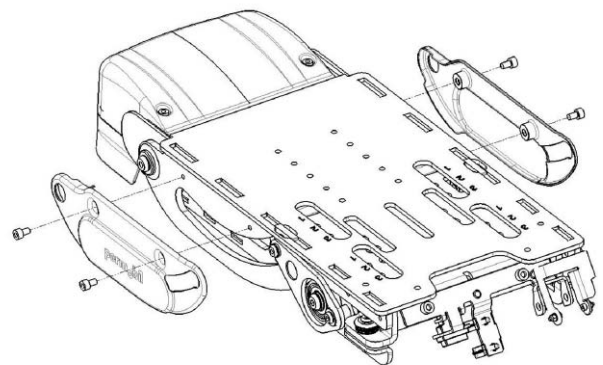

Fig. 2. Remove the side covers from the seat tilt.
3. Remove the side covers from the seat tilt. See fig. 2.